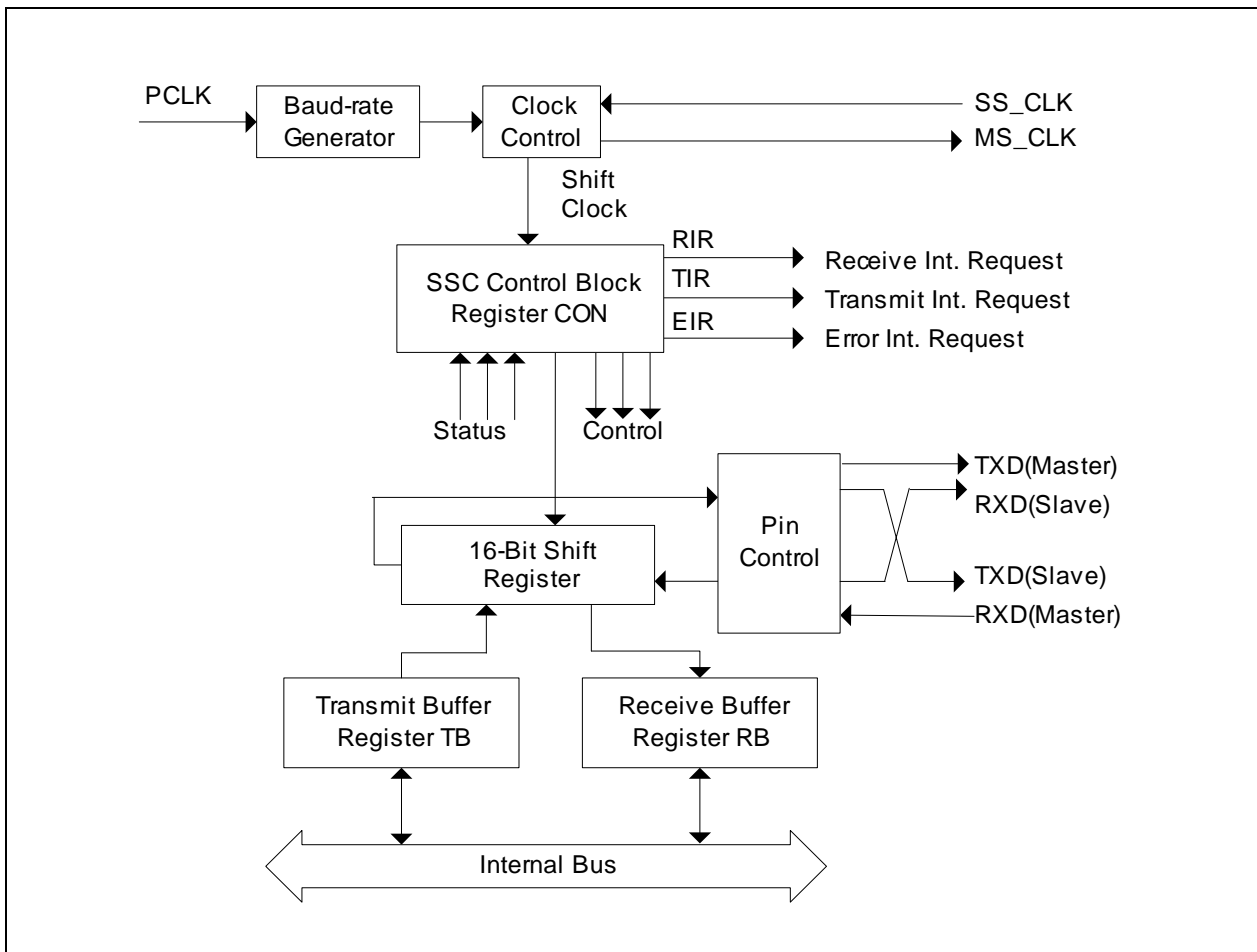

Figure 31 SSC Block Diagram
**Figure 31** shows the block diagram of the SSC.